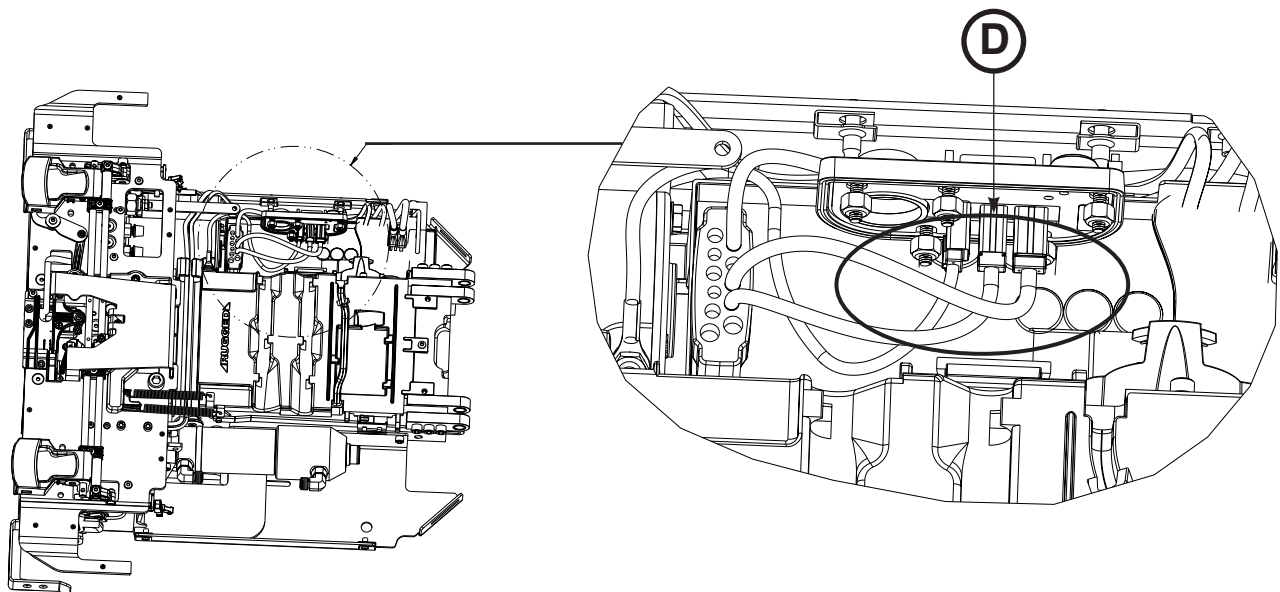

Figure 65
7. Unplug the cables from the master On/Off switch (D) and remove the manual release button assembly (Figure 65).